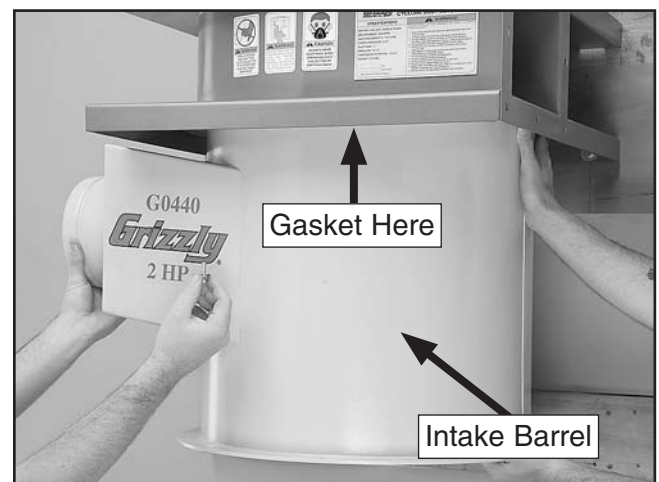

Figure 13. Securing blower on intake barrel.
4. Temporarily attach the intake barrel to the housing with a barrel gasket in between, as shown in **Figure 13**, using (4) $\frac{5}{16}$ "-18 x $\frac{3}{4}$ " hex bolts and (4) $\frac{5}{16}$ " flat washers—and only snug the bolts, rather than fully tighten them.
- Use the (12) $\frac{5}{16}$ "-18 x $\frac{3}{4}$ " hex bolts and (12) $\frac{5}{16}$ " flat washers to re-install the intake barrel to the housing with a barrel gasket in between, as shown in **Figure 13**.